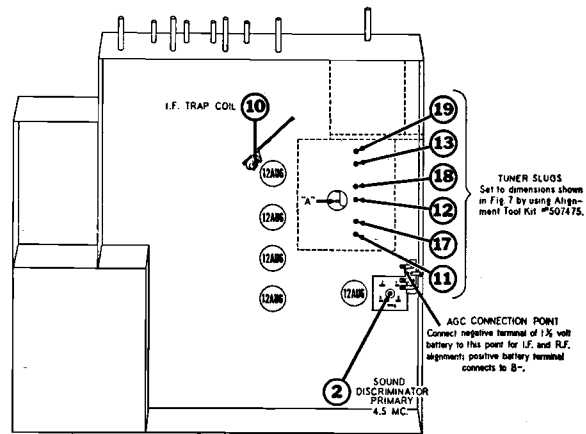

FIG. 6
GENERAL INSTRUCTIONS: When aligning IF and RF circuits it is necessary to apply a fixed bias voltage to the AGC system of the receiver. This fixed bias is obtained by using a 1½ volt battery and connecting it as described in Fig. 6.
2. Connect a 1½ volt battery to the receiver AGC system so that negative terminal of battery connects to the AGC line and positive terminal of battery connects to B—. See Fig. 6 for convenient point of connection.
3. Note location of IF Trap Coil #10 by referring to Fig. 6. Before undertaking the alignment of any of the IF stages, Trap Coil #10 must be detuned so that it does not resonate in the IF pass band. Detuning is accomplished by merely compressing the windings so that they are closely spaced. Failure to detune the Trap Coil can cause the IF system to become regenerative thereby preventing alignment.
Attenuated area ("plateau") on sound carrier side of IF band pass characteristic (Fig. 9) is obtained by adjusting the spacing of the winding of Trap Coil #10 (see Fig. 6 for location of this coil). By spreading the coil winding a small amount, and observing
1. Connect a 1½ volt battery to the receiver AGC system so that negative terminal of battery connects to the AGC line and positive terminal of battery connects to B— (see Fig. 6 for convenient point of connection).